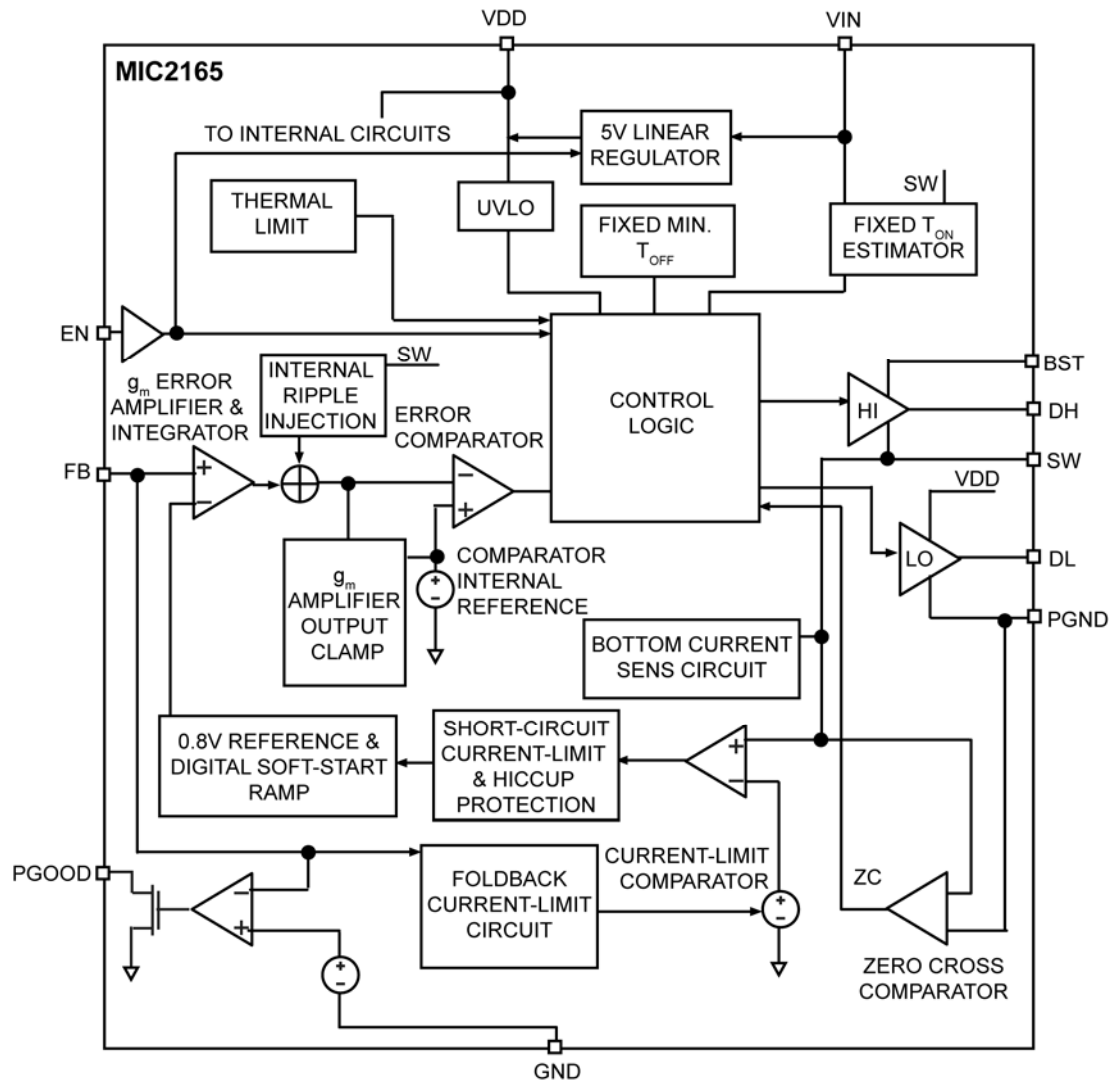

Figure 1. MIC2165 Block Diagram
The MIC2165 is an adaptive on-time buck controller. Figure 1 illustrates the block diagram for the control loop. MIC2165 is able to operate in two modes: continuous mode and discontinuous mode. The operation mode of MIC2165 is determined by the output of Zero Cross Comparator (ZC), as shown in Figure 1.